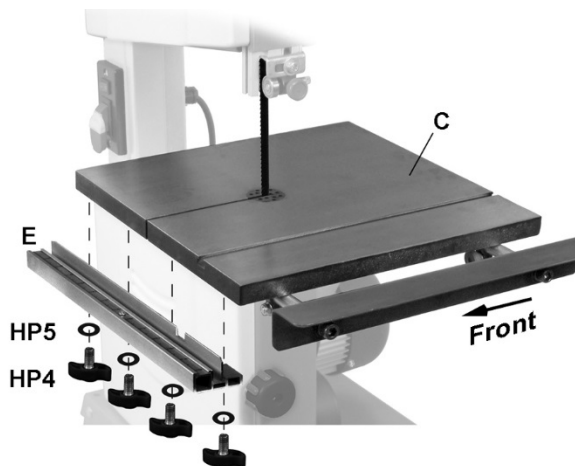

Figure 6
1. Attach guide rail (E, Figure 6) to front of table. Secure with four wing screws (HP4) and flat washers (HP5).